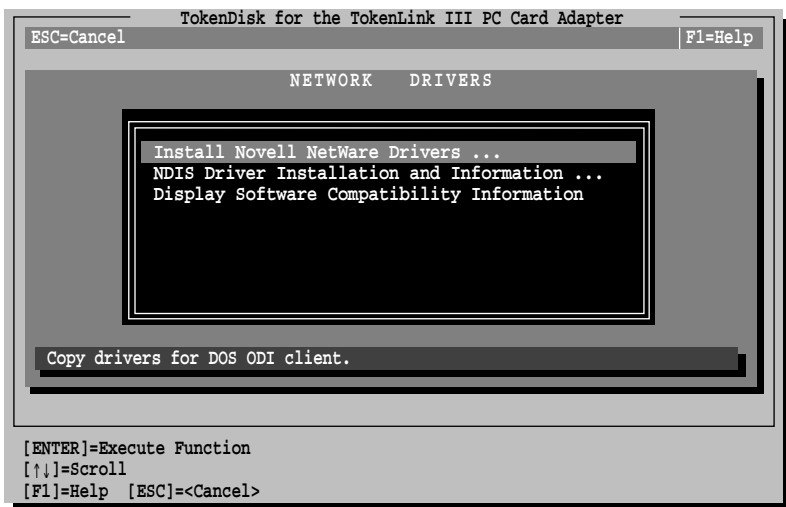

Figure 5-3 Network Drivers Menu
- 2 When the next screen appears, select **Install Novell NetWare Drivers**, as shown in Figure 5-3, and press [Enter].
The NDIS Driver Installation and Information option on the Network Drivers menu shown in Figure 5-3 provides instructions for installing the NDIS driver.